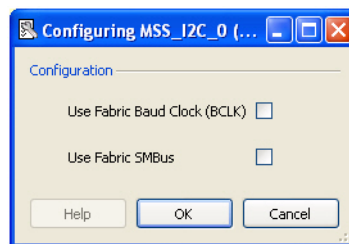

Figure 2 · Configure MSS I2c Dialog Box
**Fabric Baud Clock Extension** - You can use an FPGA fabric generated Baud Clock signal (BCLK) to generate the internal I2C baud rate clock; to do so, check the **Use Fabric Baud Clock (BCLK)** option in the MSS I2C Configurator (Figure 2) to expose the BCLK port on the MSS I2C instance(s) used in your application. This port is automatically promoted to the top level of the MSS Configurator Canvas so that it is available at the next level of hierarchy. You must ensure that the I2C driver configuration used in your software application is compatible with using the MSS I2C BCLK port.